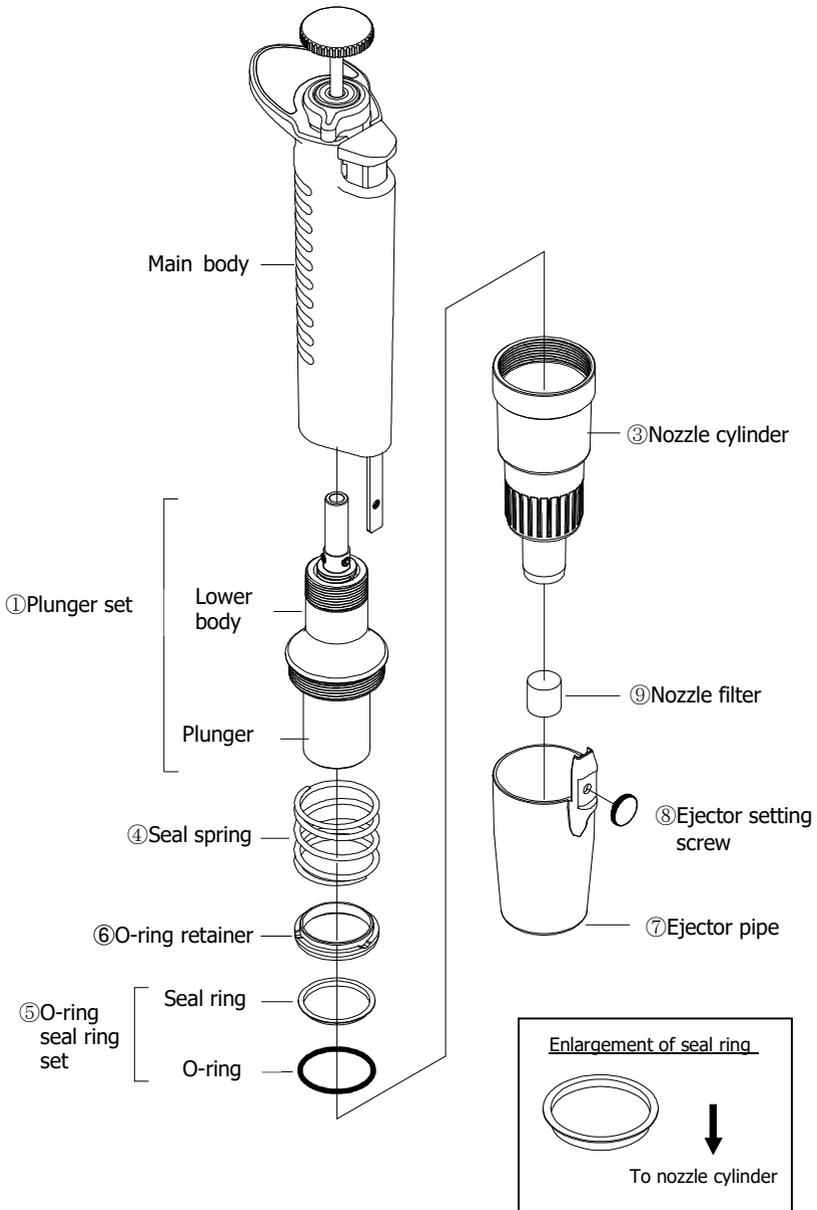

Fig. G4
- For Models: 5000µL: (Fig. G4) and 10000µL (Fig. G5), remove the seal spring, O-ring retainer, O-ring and seal ring in the nozzle cylinder.
- For Models: 5000µL (Fig. G4) and 10000µL (Fig. G5)
Circled Numbers in (Fig. G4) corresponds to Parts Numbers in the replacement parts list.